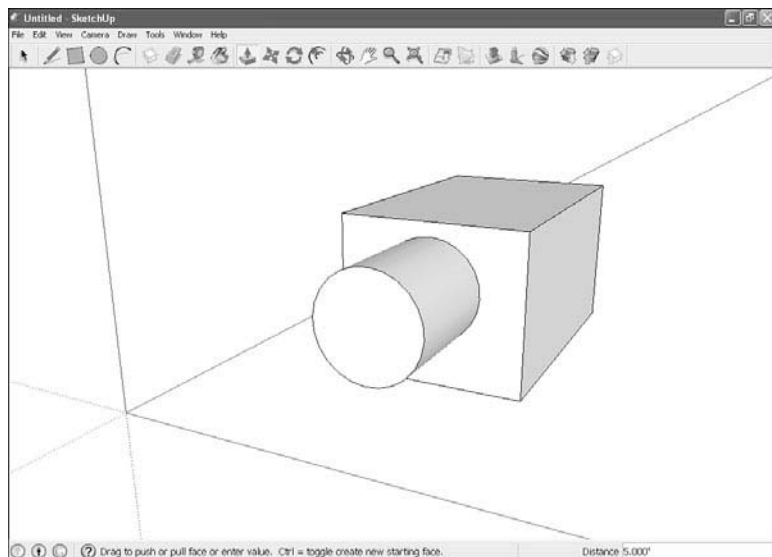

FIGURE 5.6 A measured cylinder.
- ▶ **"** for inchesThus, 5m means five meters, 5" means five inches, and so on. In this example, we'll use 5 feet, 5', giving you the cylinder you see in Figure 5.6.